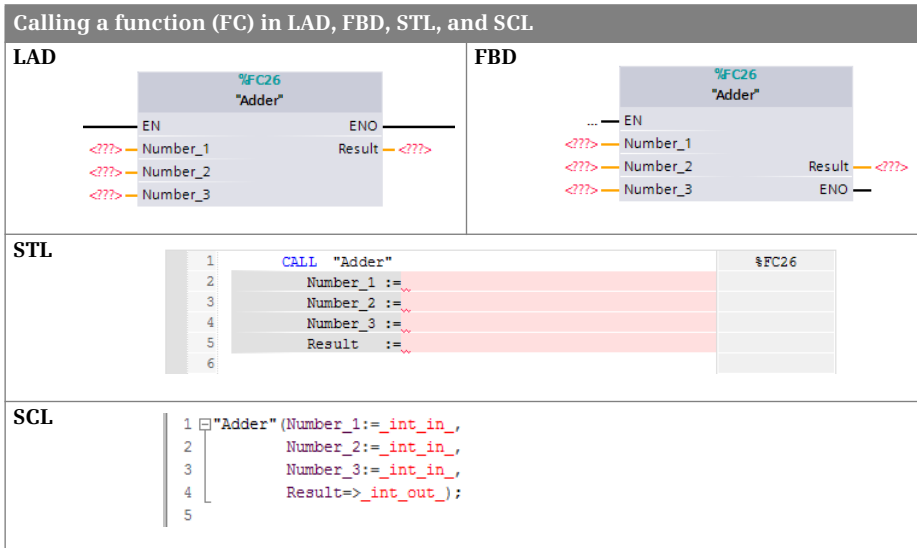

Fig. 5.8 Calling a function (FC) in the various programming languages
Fig. 5.8 shows an example of calling a function (FC) in the various programming languages. The block parameter *Result* is configured as an output parameter; the function has no function value.